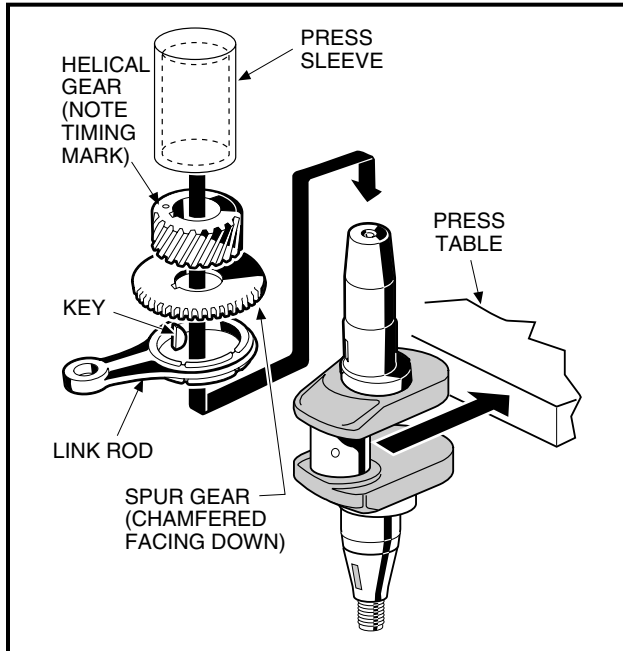

Figure 18-86 Crankshaft Installation
**NOTE:** Make sure the chamfered inside diameters of the spur gear and helical gear are oriented downward on the crankshaft as shown (Figure 18-86, Page 18-41).